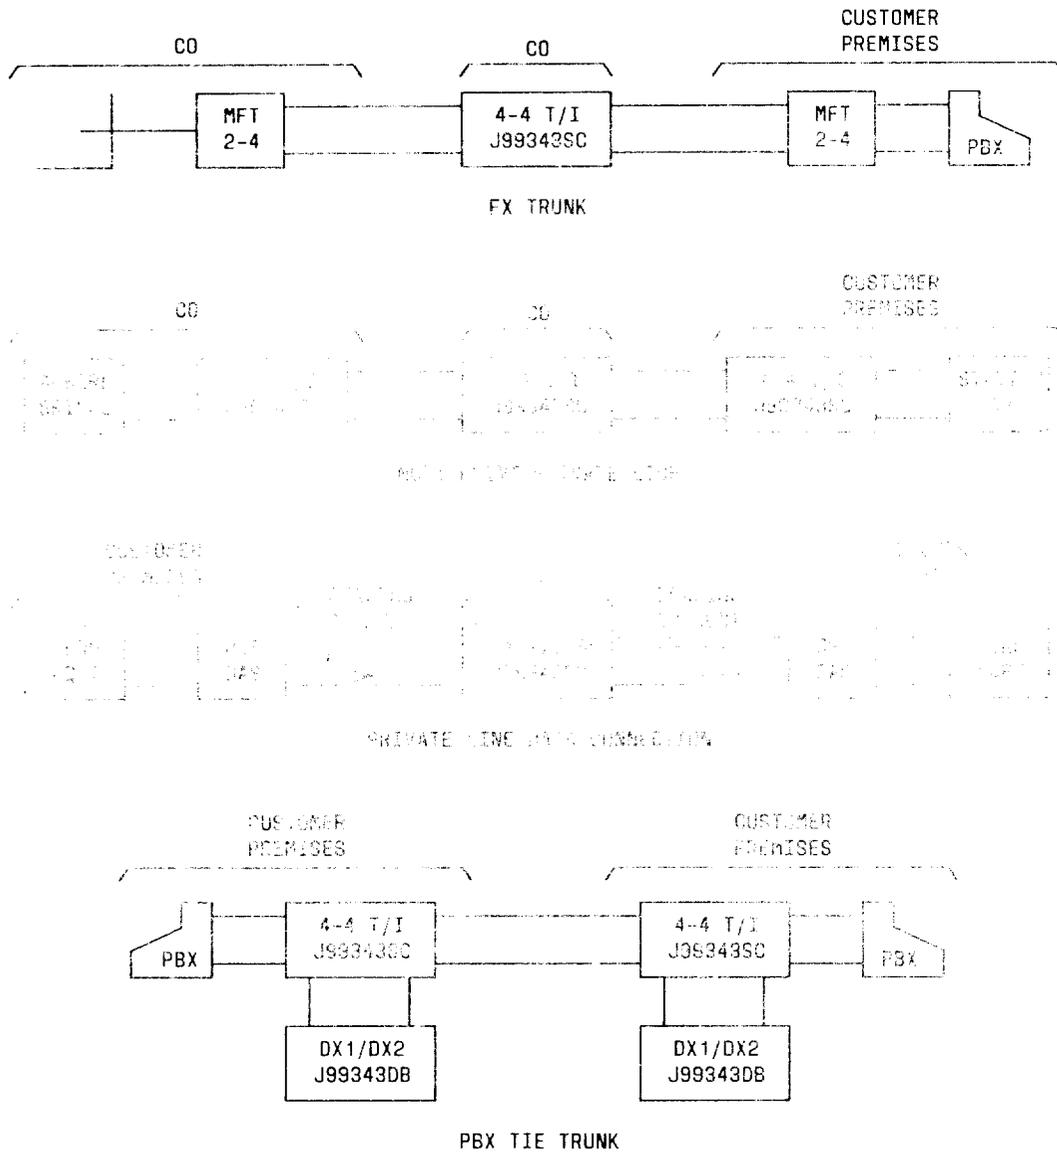

Fig. 14—Four-wire Repeater Applications
5.01 The J99343SC and SD units are intended for use in intermediate and terminal applications requiring 4-wire transmission treatment. These applications include foreign exchange (FX) service, off-premises station (OPS) lines, wide area telephone services (WATS) trunks and lines, private business exchange (PBX) tie trunks, private line services, and multipoint bridge arrangements. Figure 14 illustrates typical applications for the 4-wire repeaters.